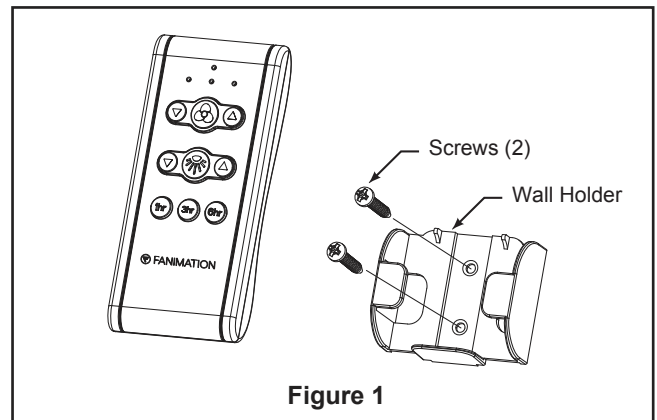

Figure 1
- ### 1. Installing Wall Holder: (Figure 1)